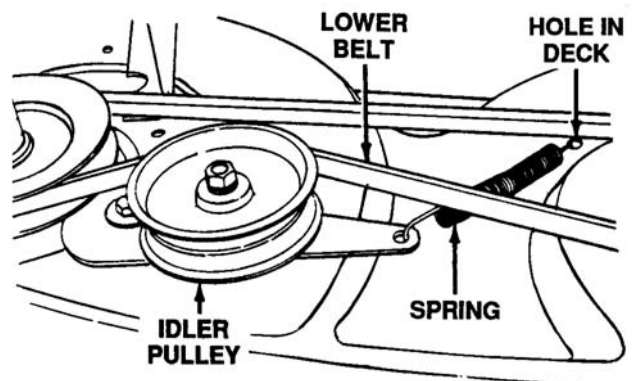

Figure 12-32. Location of Idler Bracket Spring
9. Disconnect the spring on the idler bracket from the hole in the deck. Slip the lower belt over the idler pulley. Roll the belt off the deck pulleys. See Figure 12-32.